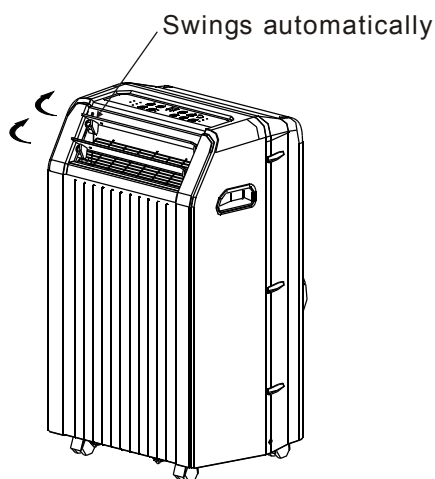

Fig.6
• Adjust the air flow direction automatically (Fig.6):
- Holding down the SWING button more than 2 seconds activates the Auto swing feature. (Fig.6)